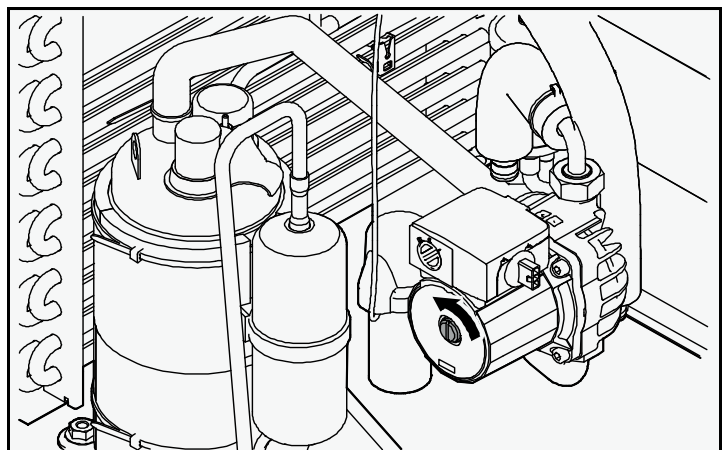

Figure 2
- Step 6** Open the purge screw on the side of the circulation pump (see fig 2) and leave open until water drains uniformly without air bubbles. Close the purge screw.